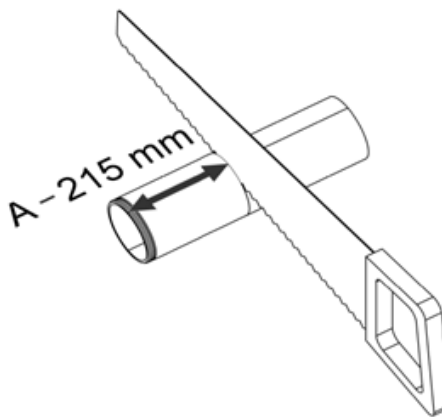

Figure 9 - Shortening of the Ø90 mm tube
The Ø90 mm tube (3) is sawed the length of $A - 215$ mm, measured from the milled grooves, see Figure 9 below.